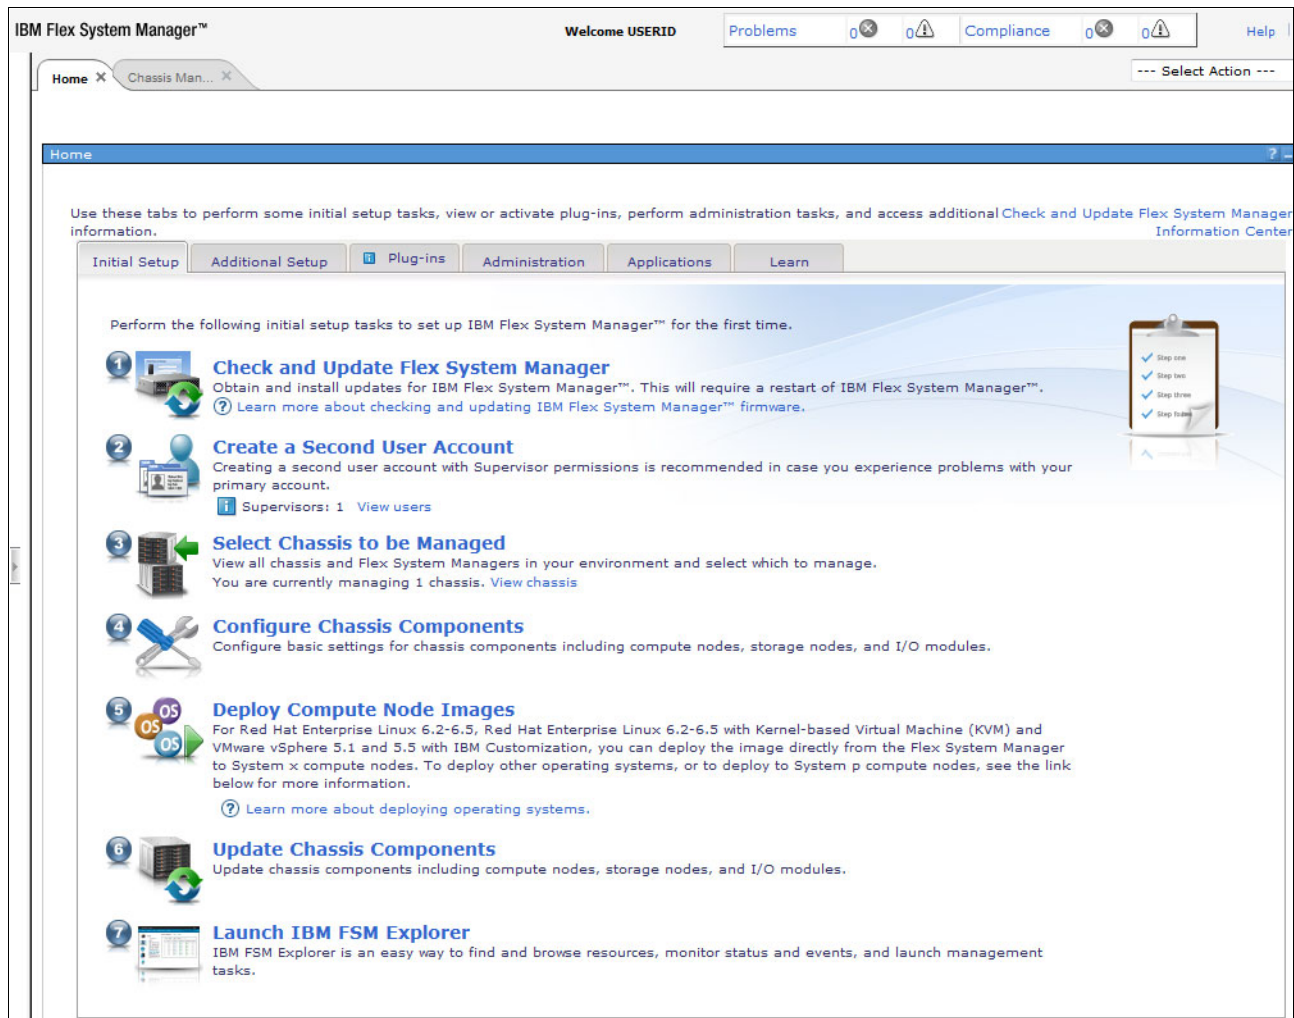

Figure 7-25 Flex System Manager Initial home page
3. After login, the home tab view is displayed, as shown in Figure 7-25 on page 168.